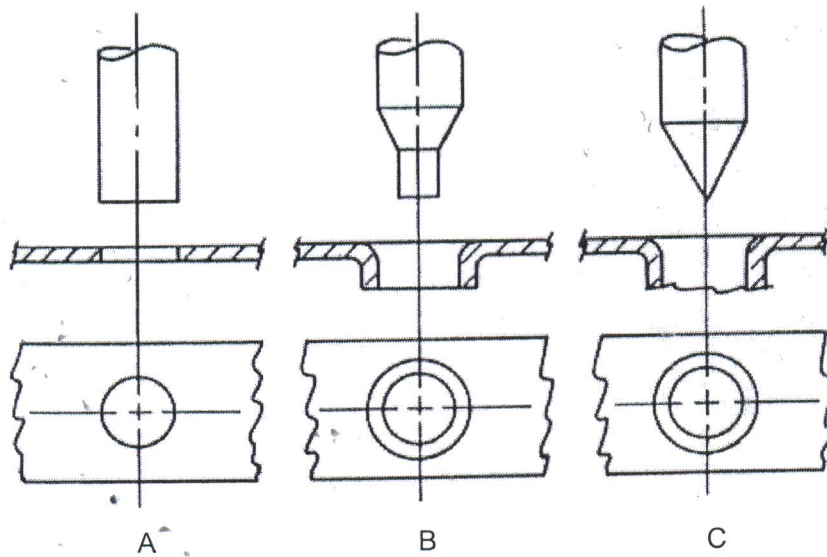

Figure 4 - Types of piercing operations
- Determine the type of each piercing operations given in the drawing (as shown in Figure 4).